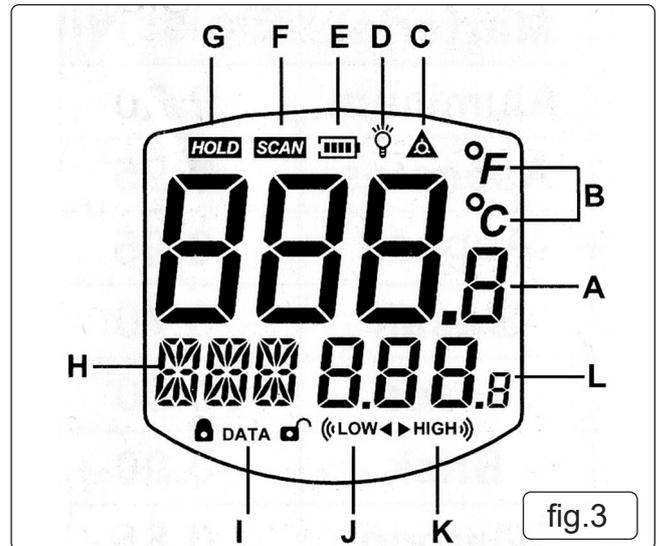

fig.3
4.2. LCD Display (fig.3)
1 - Trigger. Press to switch thermometer on. Press and hold to scan. The Temperature Reading (fig.3.A) and the Scanning icon (fig.3.F) will show on the LCD display. When the trigger is released, the last recorded Temperature Reading (fig.3.A) and the Data Hold icon (fig.3.G) will show.
2 - Laser/Backlight Button. Press to operate the laser and the backlight. When the laser is on, the Laser On icon will show (fig.3.C). When the backlight is on, the Backlight On icon will show (fig.3.D). The backlight will only operate continually for 10 seconds.
MAX mode - will display the maximum temperature measured on the Set/Record Value Indicator (fig.3.L) during a single scan.
MIN mode - will display the minimum temperature measured on the Set/Record Value Indicator (fig.3.L) during a single scan.
DIF mode - will display the difference between the highest and lowest measurements on the Set/Record Value Indicator (fig.3.L) during a single scan when the SET button (fig.4.4) is pressed.
AVE mode - will display the average reading measured on the Set/Record Value Indicator (fig.3.L) during a single scan.
HAL - High Temperature Alarm. Use the arrow buttons (fig.4.5) to set a high temperature alarm reading on the Set/Record Value Indicator (fig.3.L) and enter using the SET button (fig.4.4). When the pre-set temperature is exceeded during scanning, HIGH will show on the LCD display (fig.3.K) and the audio alarm will sound.
LAL - Low Temperature Alarm. Use the arrow buttons (fig.4.5) to set a low temperature alarm reading on the Set/Record Value Indicator (fig.3.L) and enter using the SET button (fig.4.4). When the pre-set temperature is exceeded during scanning, LOW will show on the LCD display (fig.3.J) and the audio alarm will sound.
STO - Data Storage. Press the STO button (fig.4.6) and then the SET button (fig.4.4), the data storage/read icon (Fig.3.I) will show on the LCD display and 1--- will show in the Set/Record Value Indicator (fig.3.L). To store the reading, press the STO button (fig.4.6) and the Set/Record Value Indicator (fig.3.L) will show 2---, ready for the next reading to be stored. There are 12 groups available in the thermometer memory. Data can be recalled in normal measuring mode by pressing the STO button (fig.4.6). To clear the memory press and hold the STO button (fig.4.6) for 3 seconds.
EMS - Emissivity set-up mode. Use the arrow buttons (fig.4.5) to alter the emissivity setting displayed in the Set/Record Value Indicator (fig.3.L). Press the SET button (fig.4.4) to confirm selection. The default setting for EMS is 0.95.
5.5.2. Pull and hold the trigger (fig.4.1) to turn the meter on and begin measuring. The Scanning icon (fig.3.F) and the Temperature Reading (fig.3.A) will show on the LCD display.
a) Push the Laser/Backlight button (fig.4.2) to turn on the laser pointer. When the laser is 'on' the Laser On icon (fig.3.C) will appear on the LCD display. Aim the beam approximately 16mm above the point of test. (To turn the pointer 'off' press the Laser/Backlight button again.) b) Select the temperature units using the Temperature Unit Switch (fig.4.7).
5.5.4. Once the trigger has been released the information on the LCD display will remain for 30 seconds before the unit automatically switches off. (Whilst the information remains on the LCD display the Data Hold icon (fig.3.G) will be displayed).